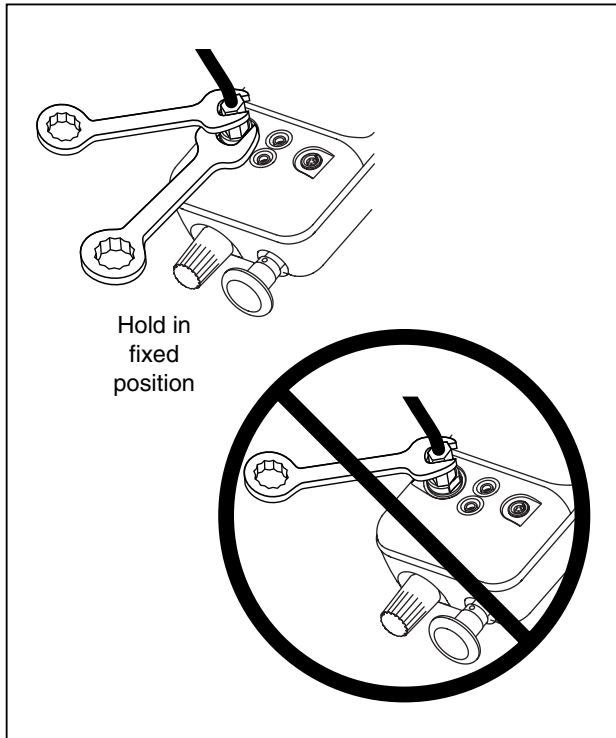

Figure 1. Connection Technique
- To avoid mechanically damaging the Calibrator, do not apply torque between the pressure fitting and the Calibrator case. See Figure 1 for the proper use of tools.